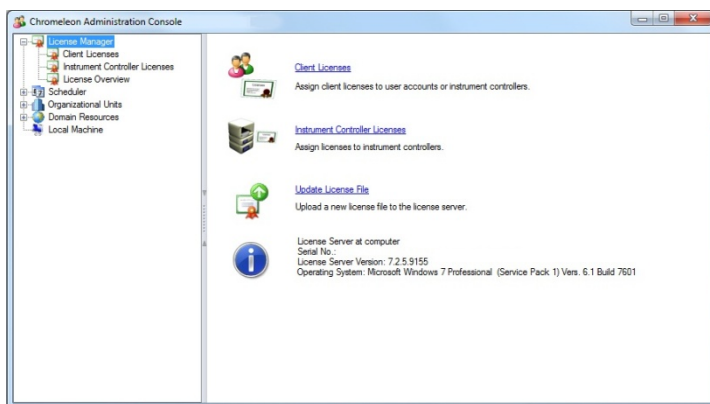

Figure 11: License details
2. Open the Administration Console: Click **Start > Thermo Chromeleon 7 > Administration Console**, and select **License Manager**, Figure 11.
3. Click the **Update License File** link (Figure 11) and browse to the license file you want to use. Select the file and click **Open**. The license file is copied to its desired location (Section 2.1.2).